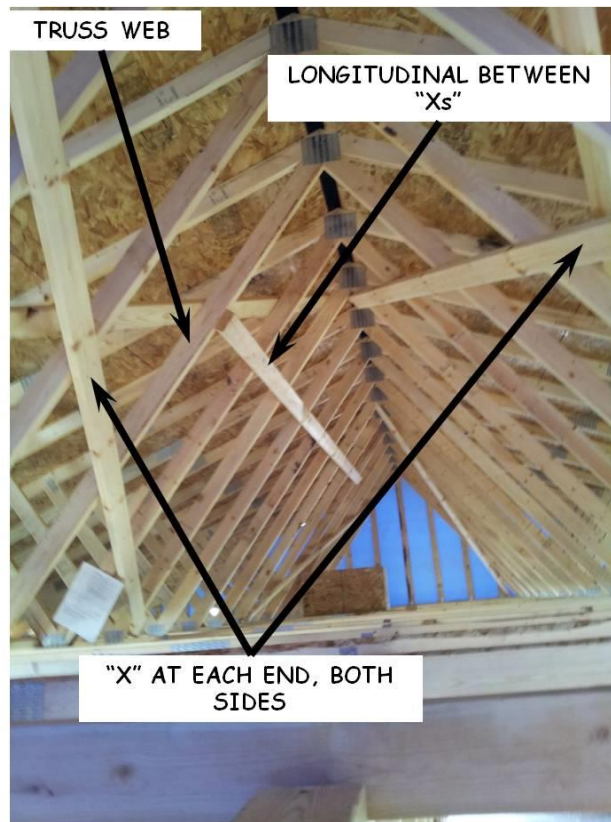

Figure 7-7. Truss Bracing.
1. After roof sheathing has been installed, permanently install X-bracing (diagonal). This bracing prevents lateral movement of the truss system. The bracing is nailed to the truss webs as shown in Figure 7-7.
5. Connect the X-braces by nailing one long 2x4, horizontally, to the truss webs, about halfway down from the peak. Each end of the longitudinal bracing must be nailed to at least two truss webs to which an X brace is nailed (see Figure 7-7). If more than